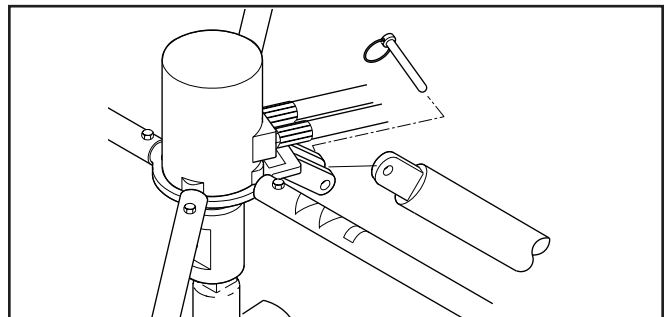

Figure 3. Installing Torque Tube
1. The torque tube is attached to the base as shown in Figure 3. Be sure to use the cotterless clevis pin provided with the unit. Make sure the pin is pushed through both holes in the base.